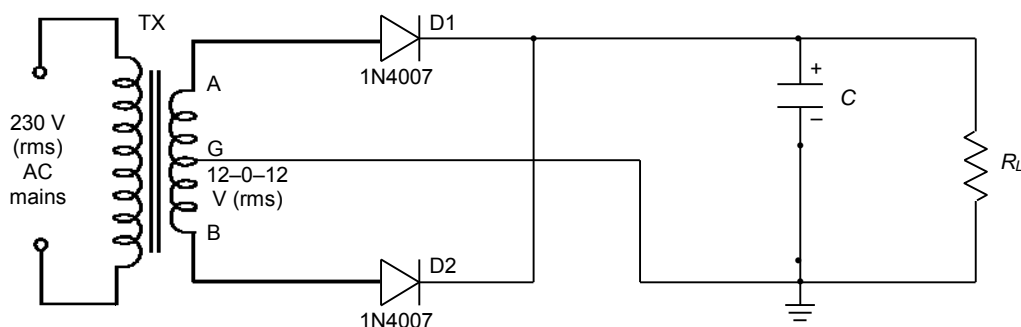

Fig. 1 Power supply using a centre tapped transformer and full-wave rectifier.
1. Set up the circuit as shown in Fig. 1 without the capacitor C . The transformer TX has rating of 230 V to 12-0-12 V, 1 A. Take $R_L = 1\text{ k}\Omega$. Connect transformer primary to the mains and switch on the mains. Display the secondary voltages V_{AG} and V_{BG} (V_{AG} to Ch-1, V_{BG} to Ch-2) on the oscilloscope. Make sure that both the “probe grounds” are connected to the circuit ground. Sketch the waveforms overlapping, with the same time and amplitude axes. They should be 180° out of phase.
3. Now connect $C = 100\text{ }\mu\text{F}$ as shown in Fig. 1. Sketch V_o and measure V_r (peak-to-peak ripple voltage). Set the oscilloscope channel to *AC coupling* and increase vertical sensitivity (decrease V/div) while measuring V_r .